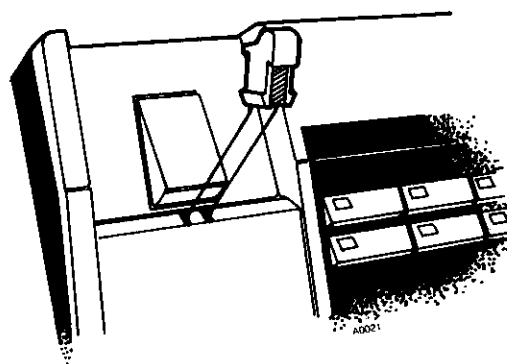

Figure 3 INSERTING HANDSET BRACKET, EK-616
- *Insert the handset bracket in the station housing below hookswitch (Figure 3).*